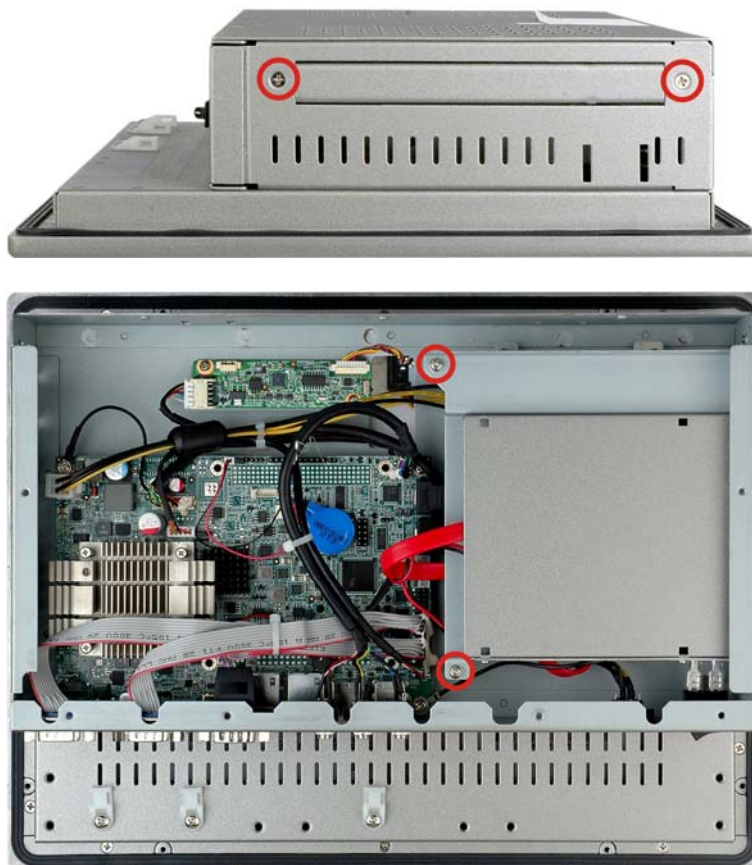

Figure 3-19: Optical Drive Bracket Retention Screws
Step 2: Remove the optical drive bracket. Undo the optical drive bracket screws and remove the optical drive bracket. See **Figure 3-19**.
Step 2: Remove the optical drive bracket from the PPC-3712A-N26. To do this, remove four retention screws, two on the side panel and two inside the panel PC (**Figure 3-19**).